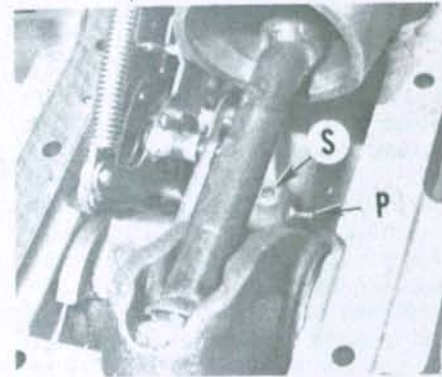
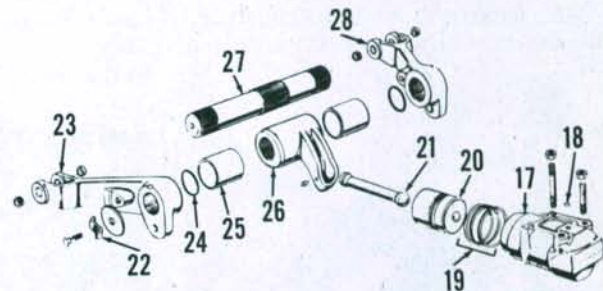
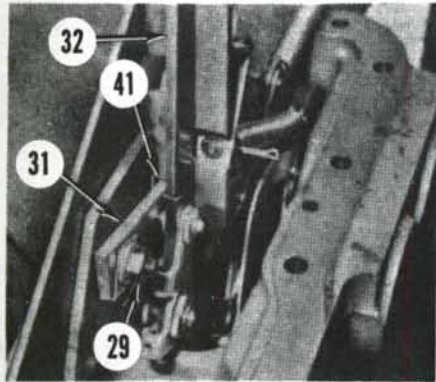

Fig. 284—Set screw (S) retains pivot shaft (P).
Fig. 282—Drawing of hydraulic lift internal linkage typical of all models. Inset shows parts that are used for pressure control models.
Fig. 285—View of spring (41) installed on vertical lever (32).
Remove pressure control lever (50—Fig. 282) if so equipped. Loosen the position control adjusting screw (36—Fig. 283), then remove spring (38).
Thread a screw into quadrant retaining pin (P), then pull or pry pin from lift cover. Hold draft and position control fingers away from control cams as quadrant assembly is withdrawn from cover. Insert cotter pins through drilled holes in cam spring guide rods to hold springs (34—Fig. 282) in compressed position. Remove nut (29) retaining pivot bracket (31), then remove vertical lever (32) with fingers and pivot bracket as a unit. Remove plug from left-hand side of cover and loosen set screw (S—Fig. 284) retaining cam pivot shaft (P). Withdraw pivot shaft and remove position control and draft control cams (39 and 40—Fig. 282).
Install control linkage as follows: Locate control cams (39 and 40—Fig. 282) in cover and start pivot shaft (P) through left-hand side of cover, but not into cams. Install vertical lever spring (41—Fig. 285) over pivot bracket (31) and around vertical lever (32), then insert pivot shaft into control cams. Do not tighten set screw at this time. Insert spring rods (34—Fig. 282) into mounting bracket (30), then remove cotter pins to release the springs. Install assembled quadrant while holding control fingers away from quadrant rollers. Install quadrant retaining pin (P—Fig. 283).
Hook spring (38) between position control cam and finger (37). Install pressure control lever (50—Fig. 282) if so equipped. Adjust cam pivot shaft (P—Fig.
The control quadrant support tube (3—Fig. 286 or Fig. 287) is retained in lift cover by a pin (P—Fig. 283) in bottom side of cover. With lift cover removed as outlined in paragraph 215, thread a screw into the retainer pin and pull or pry pin from cover. Remove pressure control lever (50—Fig. 282), if so equipped, and disconnect position control cam spring (38—Fig. 283). Hold draft and position control fingers away from quadrant cams, then rotate support tube back and forth while pulling it from lift cover.